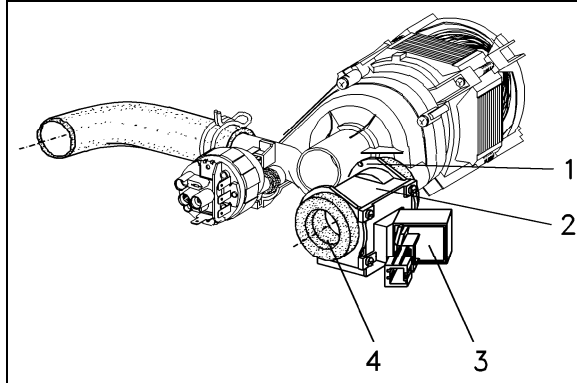

Figure 5-34: Top Solo Valve on Circulation Pump
3. Pull the valve (Figure 5-34, Item 3) away from the circulation pump.